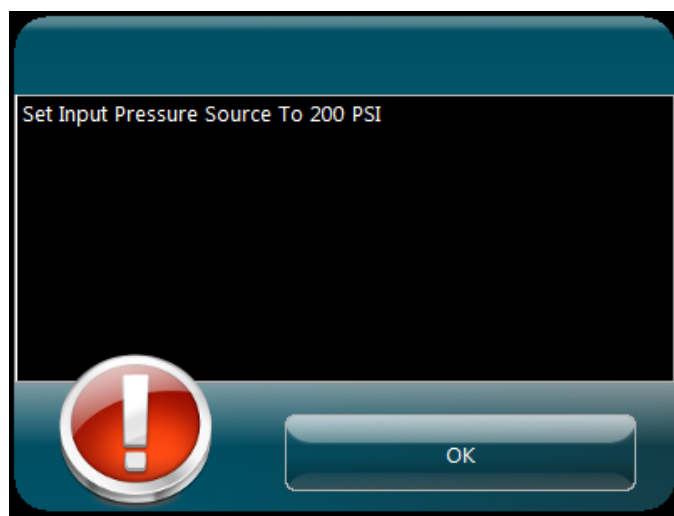

Figure 38 – Pressurization pop-up
This process is initiated by selecting the 'Start Pressure' button. The vent valve will close, the inlet valve will open and a pop-up display will appear reminding the operator to set the air tank regulator to the desired pressure (figure 38). Once the air tank valve is opened, the system will begin to pressurize. The pressure setpoint is shown and cannot be changed.
There are two (2) methods of timing the drops: using the drop count switch that is plugged into the front of the machine or using a portable timer. If using the drop count switch, pressing the button will initiate the timer. A short 'audible' beep will notify the operator that the button push was accepted. Pressing it a second time will stop the timer. Again, a short 'audible' beep will notify the operator that the button push was accepted. Pressing in the 'Drop Timer' area on the display will allow the value to be automatically entered into the display. A pop-up will appear asking the operator if the time is to be accepted (figure 38). If 'Accept' is selected, the time will be entered on the display. If 'Reject' is selected, the time will be discarded. If using a portable timer, the time to achieve 20 drops (starting with count 0) is to be manually entered on the display. Pressing in the 'Flow Verification' area on the display will pop-up a